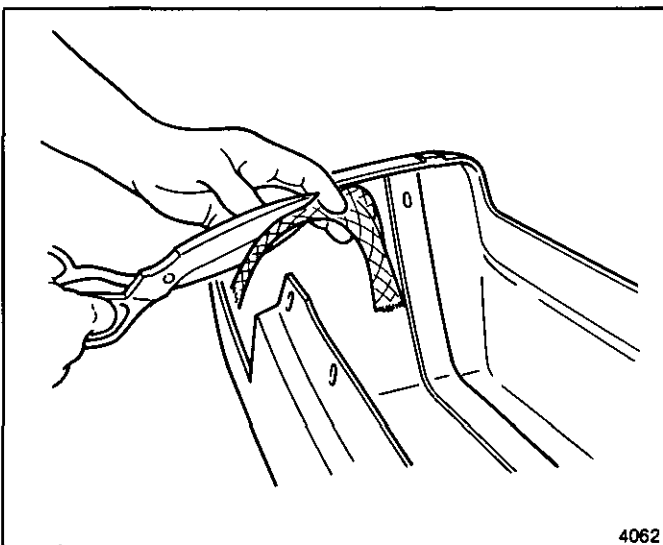

Fig. 1-21-Cutting Fiberglass Cloth to Size
- Cut a piece of fiberglass cloth large enough to overlap the break 38 mm (1-1/2") as in Figure 1-21.